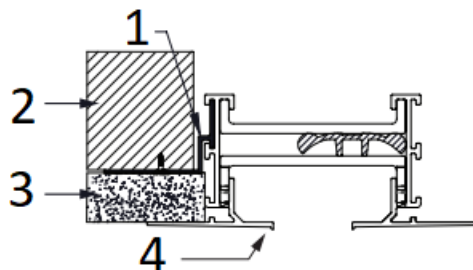

Figure 8. Drywall Installation
- Slide the drywall tightly between the mounting clips and the DFL flange as shown in Figure 8. For ease of installation, insert the tapered edge of the drywall into this opening. For the best fit, slide the edge of the drywall all the way to the vertical leg of the frame.